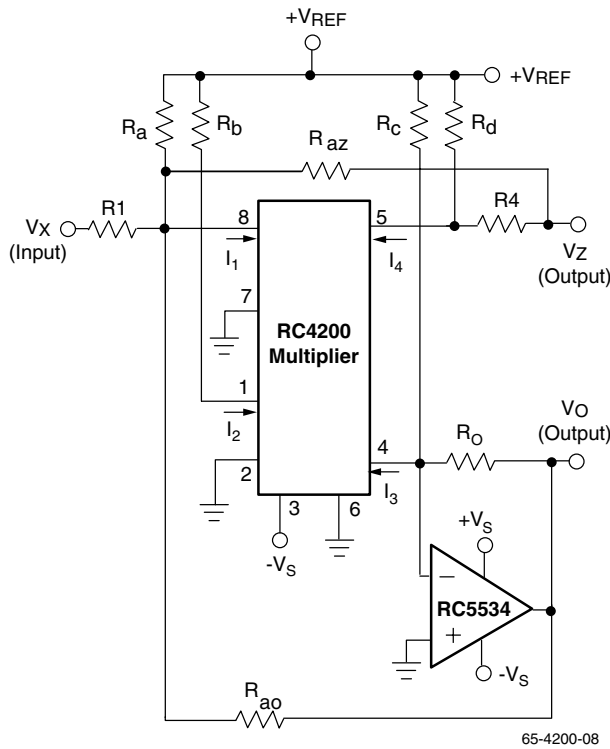

Figure 6. Extended Range Divider
1. Refer to Figure 6 for example.
3. These specifications apply with output (I_3) connected to an op amp summing junction. If desired, the output (I_3) at pin (4) can be used to drive a resistive load directly. The resistive load should be less than 700Ω and must be pulled up to a positive supply such that the voltage on pin (4) stays within a range of 0 to +5V.